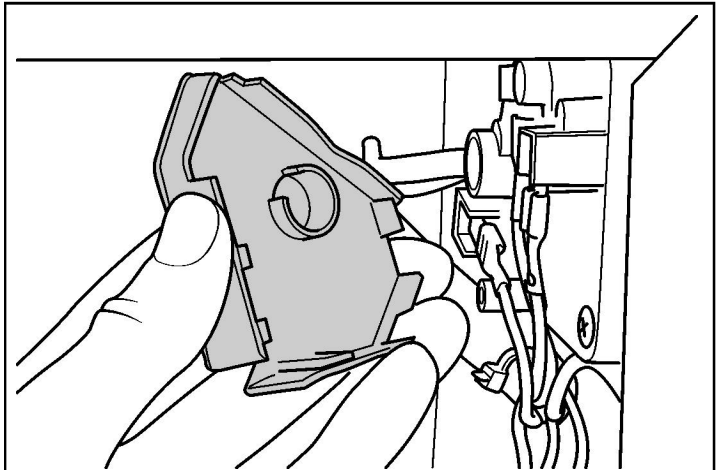

Figure 56.
1. Remove the cover from the pressure switch to gain access (See figure 56).